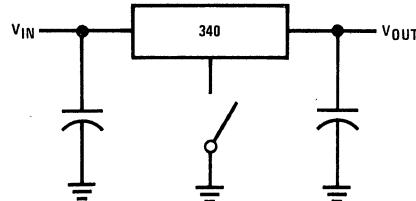

**FIGURE 1. Input Short**
**Shorting the Regulator Input:** When using large capacitors at the output of these regulators, a protection diode connected input to output (*Figure 1*) may be required if the input is shorted to ground. Without the protection diode, an input short will cause the input to rapidly approach ground potential, while the output remains near the initial  $V_{OUT}$  because of the stored charge in the large output capacitor. The capacitor will then discharge through a large internal input to output diode and parasitic transistors. If the energy released by the capacitor is large enough, this diode, low current metal and the regulator will be destroyed. The fast diode in *Figure 1* will shunt most of the capacitor's discharge current around the regulator. Generally no protection diode is required for values of output capacitance  $\leq 10\mu F$ .